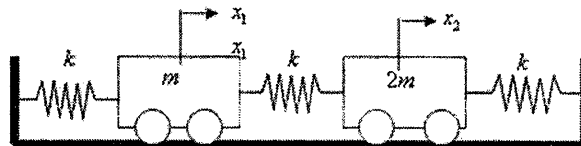

Figure 5
D) Derive DEOM using Lagrange principle for the system (Refer fig 5)